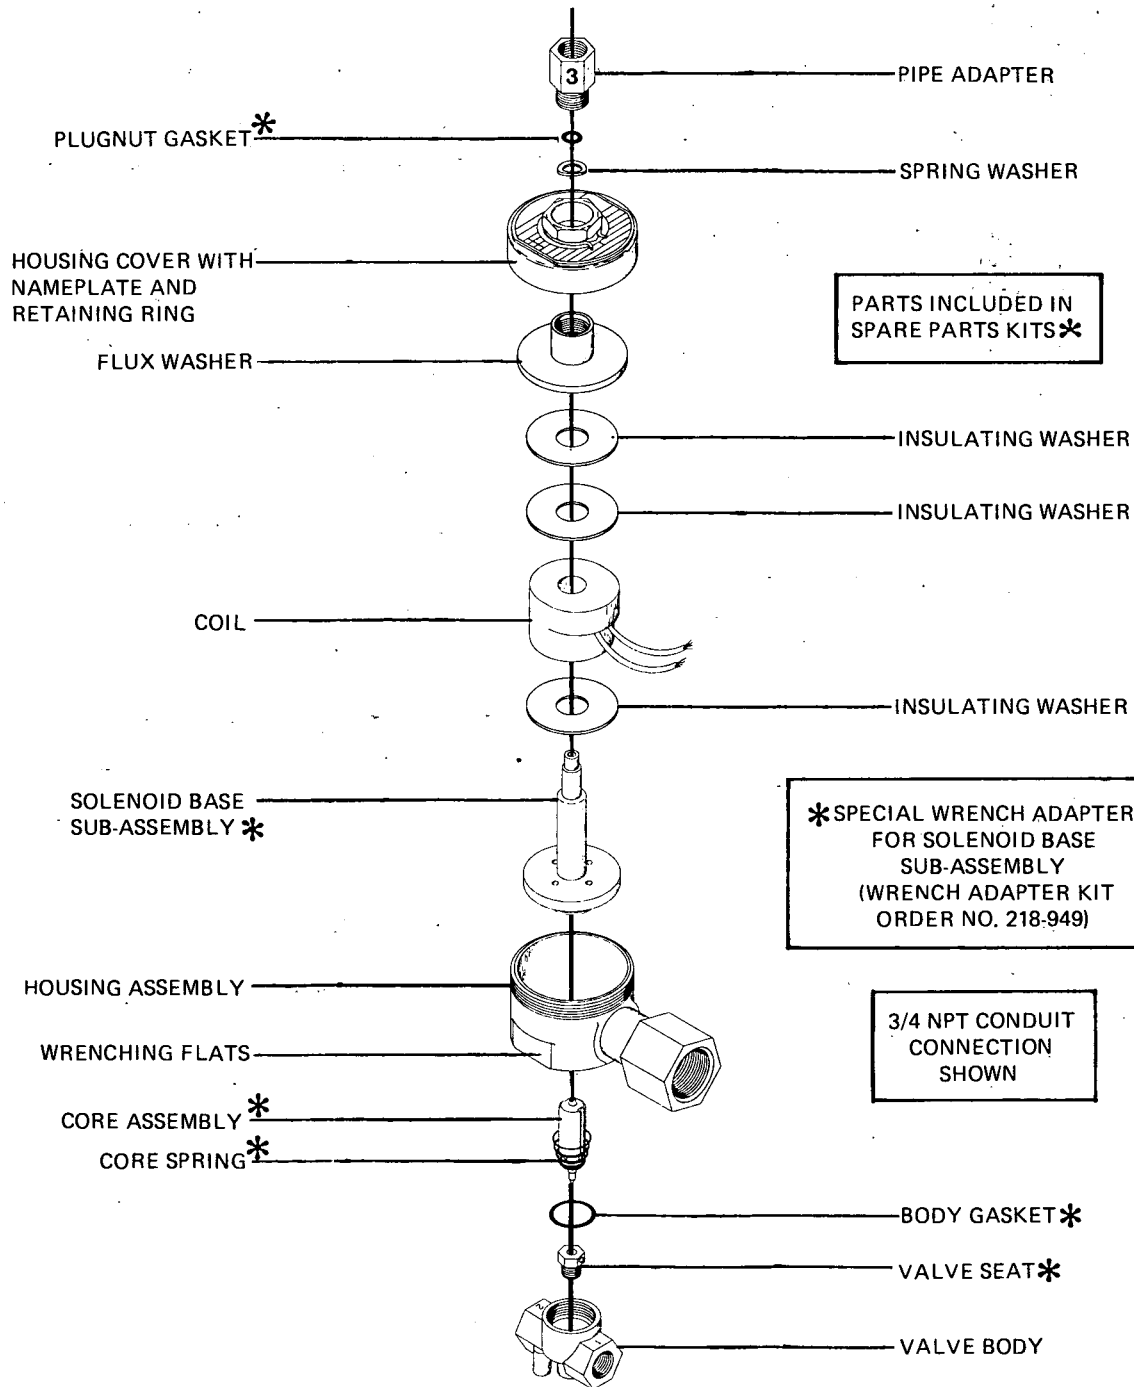

Figure 3. Bulletin 8314 - Metal-to-Metal Seating
3. Remove flux washer; plugnut gasket from pipe adapter, spring washer, insulating washers (2), coil and insulating washer from the solenoid base sub-assembly.
6. For valve constructions with metal-to-metal seating (Figure 3), remove valve seat using a 7/16 socket wrench.